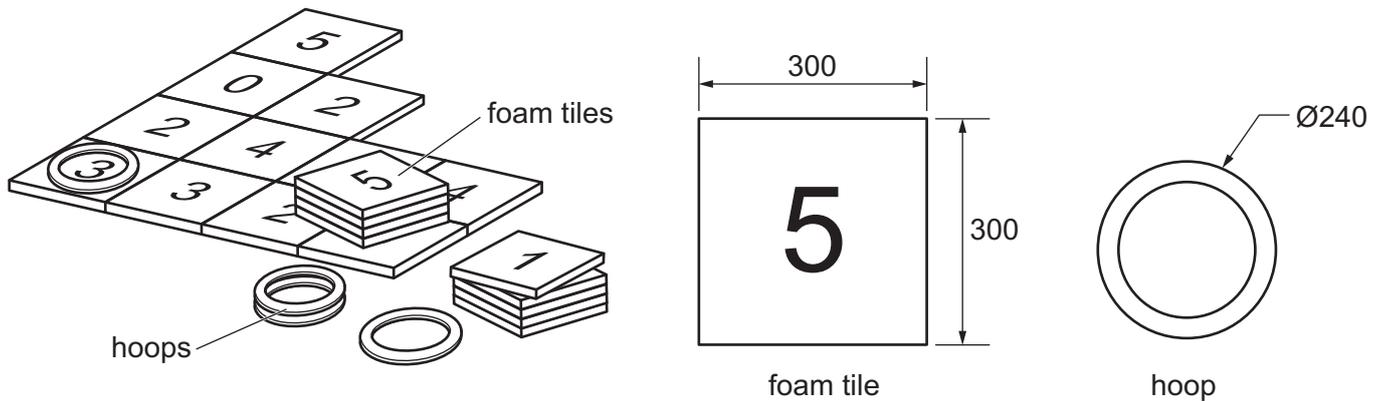

Fig. 8.1
- 8 Fig. 8.1 shows the parts of an outdoor game called **Additions**. The game involves children throwing hoops onto numbered foam tiles to achieve the highest score. The game consists of 20 foam tiles that join together, to make a play mat, and 4 hoops.